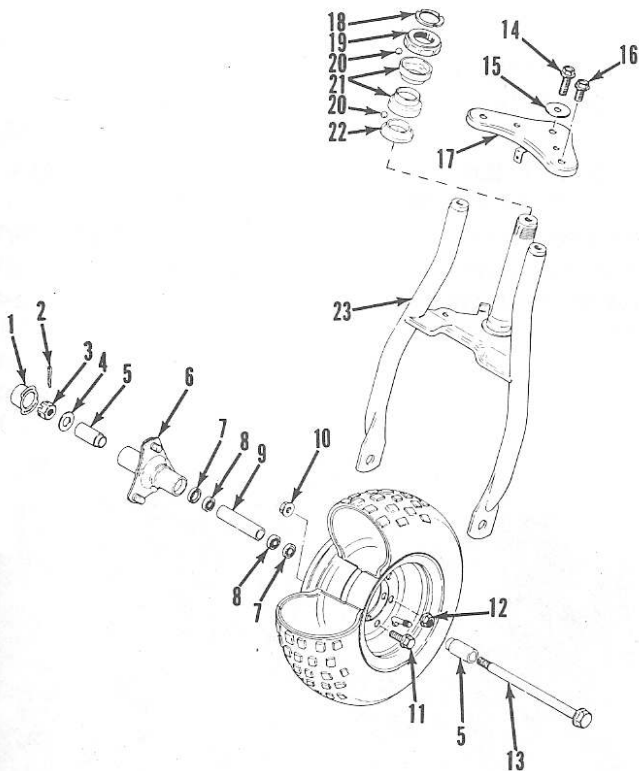

Fig. S1-11—Exploded view of steering and front axle assembly used on ALT50 models.
R&R AND OVERHAUL. Refer to Fig. S1-11 for exploded view of front axle assembly used on ALT50 models. To remove front wheel, remove boot (1) and cotter pin (2). Unscrew axle nut (3) and withdraw axle (13). Remove short spacers (5). Remove wheel retaining nuts (12) and separate wheel hub (6) and wheel. Drive seals (7), bearings (8) and spacer (9) from hub if necessary.
ADJUSTMENT. The steering stem should be checked and adjusted after the first month of operation and every three months thereafter. To adjust, remove handlebars and steering stem head bracket (17—Fig. S1-11). Loosen locknut (18) and tighten stem nut (19) until snug, then loosen stem nut 1/8-1/4 turn. Secure stem nut (19) in position with locknut (18). Tighten stem head cap screw (14) to 39.4-59.0 N·m (29.0-43.5 ft.-lbs.) torque and
R&R AND OVERHAUL. To remove steering stem head assembly, remove front wheel as outlined in FRONT AXLE section. Remove handlebars and stem head bracket (17—Fig. S1-11). Unscrew locknut (18) and stem nut (19) with a suitable tool and remove steering stem and fork assembly from frame being careful not to lose bearing balls (20).